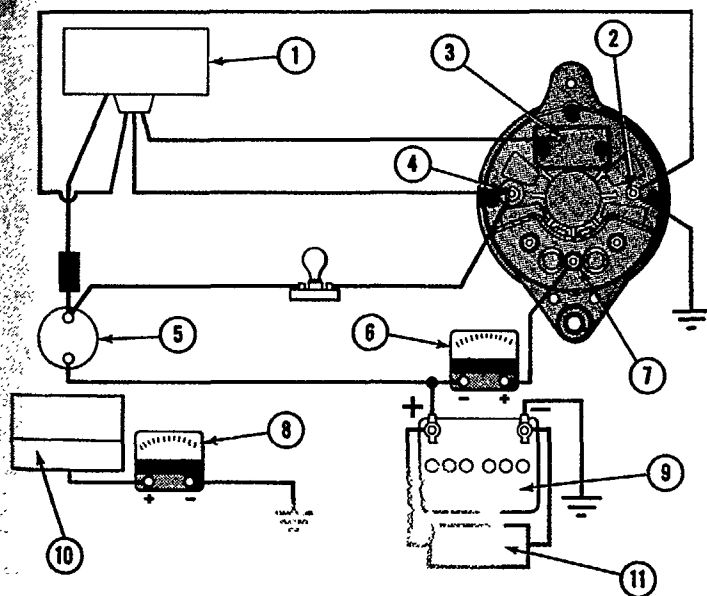

Figure 25
3. The charging system is also tested under partial load to determine if an excessive voltage loss exists between the alternator and the battery through the connecting cables. Figure 25 shows the circuit. Connect the voltmeter negative lead to ground and the positive lead to the output terminal. The ammeter should be on the 0 to 60 ampere scale.